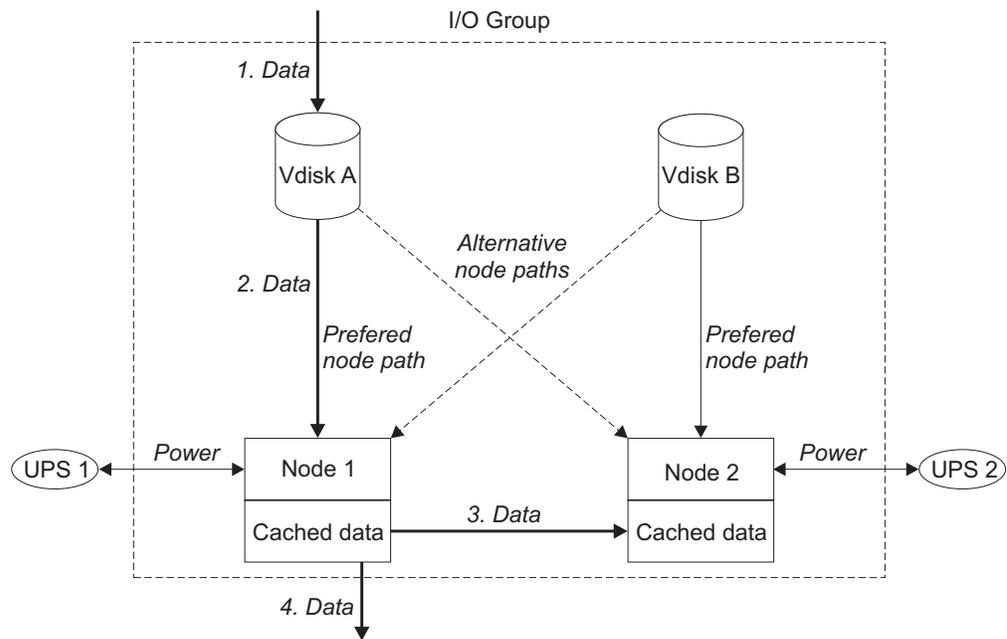

Figure 5. I/O group and UPS
Figure 5 on page 12 shows a write operation from a host (1), that is targeted for VDisk A. This write is targeted at the preferred node, Node 1 (2). The write is cached and a copy of the data is made in the partner node, Node 2's cache (3). The
host views the write as complete. At some later time, the data is written, or de-staged, to storage (4). Figure 5 also shows two UPS units correctly configured so that each node is in a different power domain.